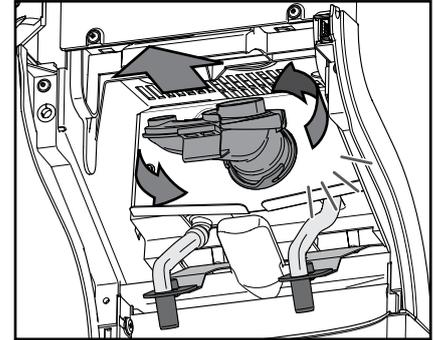

Fig. 28
- d. Rotate the mixing bowl counter-clockwise to release it and remove it with the sealing ring (fig. 28).